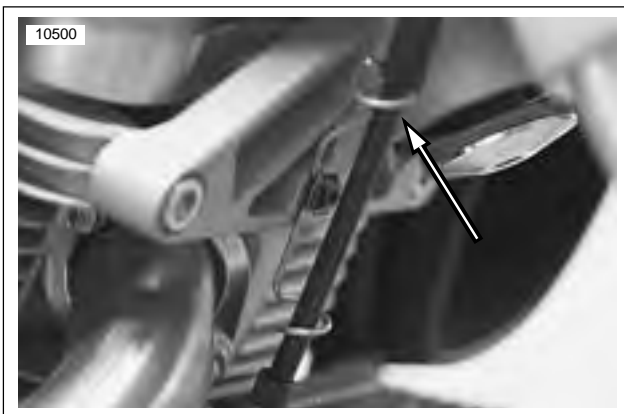

Figure 2-85. Clutch Cable Wire Form
2. See Figure 2-85. Remove clutch cable wire form.
10. Tighten front isolator bolt (6) to 49-51 ft-lbs (66-69 Nm).
11. See Figure 2-85. Install clutch cable wire form. Tighten fastener to 12-36 in-lbs (1-4 Nm).